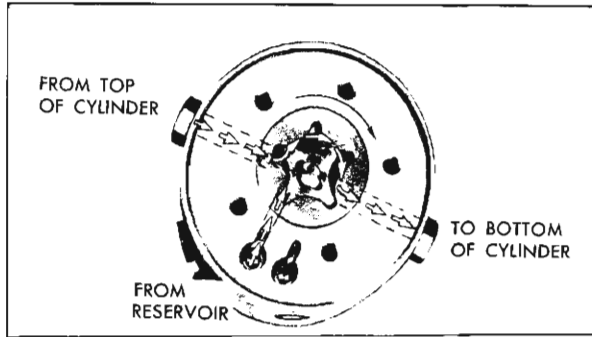

Fig. 21-63 Pump Operation—Raise Top
1. Raising the Top. When the red motor lead is energized the motor drive shaft turns the rotors clockwise as indicated by the large arrow in Fig. 21-63. The action of the pump rotors forces the fluid under pressure to the bottom of each cylinder forcing the piston upward. This action causes the fluid above the piston in each cylinder to be forced into the pump, which recirculates the fluid to the bottom of the cylinders. The additional fluid required to fill the cylinder due to piston rod displacement is drawn from the reservoir.